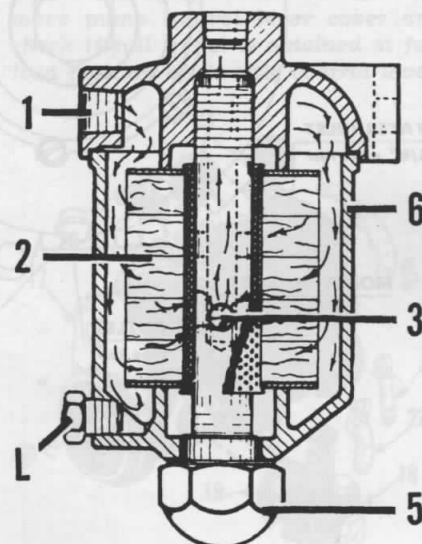

Fig. MH163—Section through LP-Gas filter used on models 44 and 55.
**85.** Filters used on these systems are subjected to pressures as high as 150 psi and should be able to stand this pressure without leakage. Unit should be drained periodically at the blow off cock (L—Fig. MH163). When major engine work is being performed it is advisable to remove the lower part of the filter, thoroughly clean the interior and renew the felt cartridge if same is not in good condition.